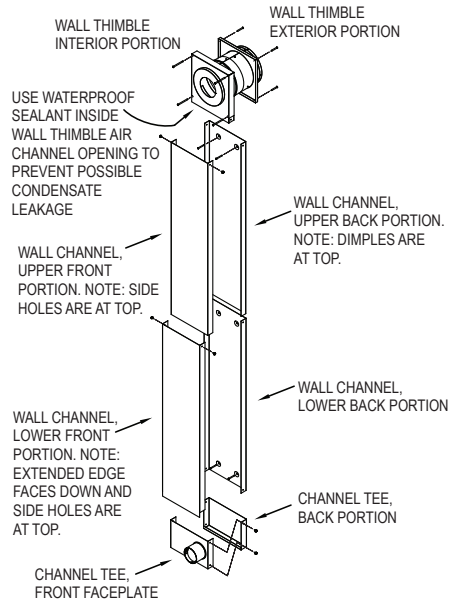
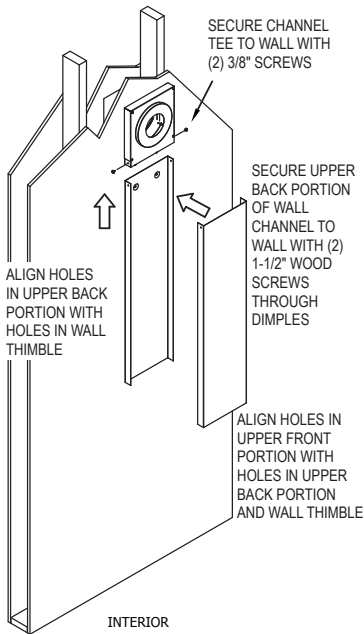

Figure 5
Figure 6
The Adjustable Wall Channel is composed of 4 parts: Upper Back portion, Upper Front portion, Lower Back portion, and Lower Front portion (**Fig 5**). It is highly recommended that you use waterproof sealant inside the Wall Thimble's air inlet channel to prevent possible condensate leakage. First, place the Upper Back portion inside the opening of the Wall Thimble. Align the Upper Back piece so the dimples are at the top and the holes on the sides match up with the holes on the sides of the Wall Thimble. Be sure to allow a small gap on both sides as the Upper Front portion fits inside the Wall Thimble, installed next. Secure the Upper Back piece to the wall using (2) 1-1/2" wood screws through the dimple standoffs against the wall (**Fig 6**).
Second, install the Upper Front portion by sliding the top end into the Wall Thimble. The Upper Front portion will install over the Upper Back portion, but inside the Wall Thimble. Align the holes on the sides with the holes in the Wall Thimble and secure in place with (2) 3/8" black screws provided (**Fig 6**).